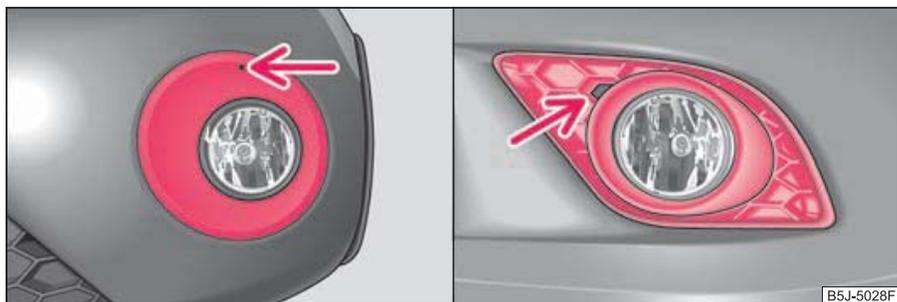

Fig. 174 Front bumper: Fabia Scout/Fabia RS
- Guide the wire clamp from the vehicle tool kit into the opening above the fog light ⇒ fig. 174 - left and remove the cover.
- Guide one finger into the opening next to the fog light ⇒ fig. 174 - right and remove the cover.